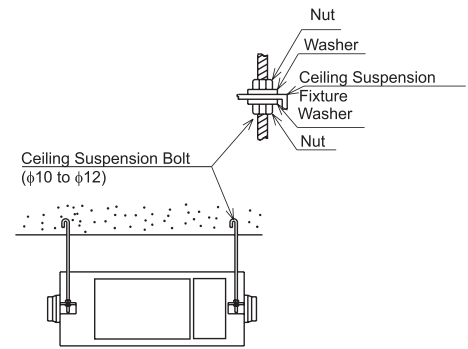

Fig. 1
- Install the unit firmly and horizontally enough to support its weight. (Fig. 1)